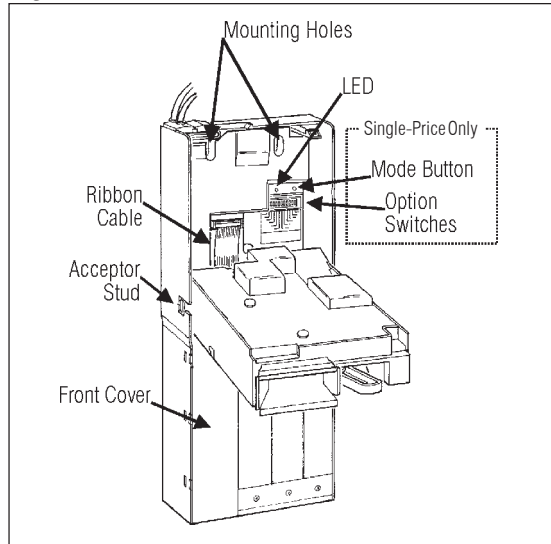

Figure 2
- 1) To set the vend price, add the value of the rocker switches that are switched ON (see Figures 2 and 3).
- 3) After setting the vend price and the option switches, **PRESS AND RELEASE THE MODE BUTTON TO STORE THE NEW SETTING** (see Figure 2). The LED and the "Use Correct Change" light will then flash, indicating that the price and options selected were recorded.